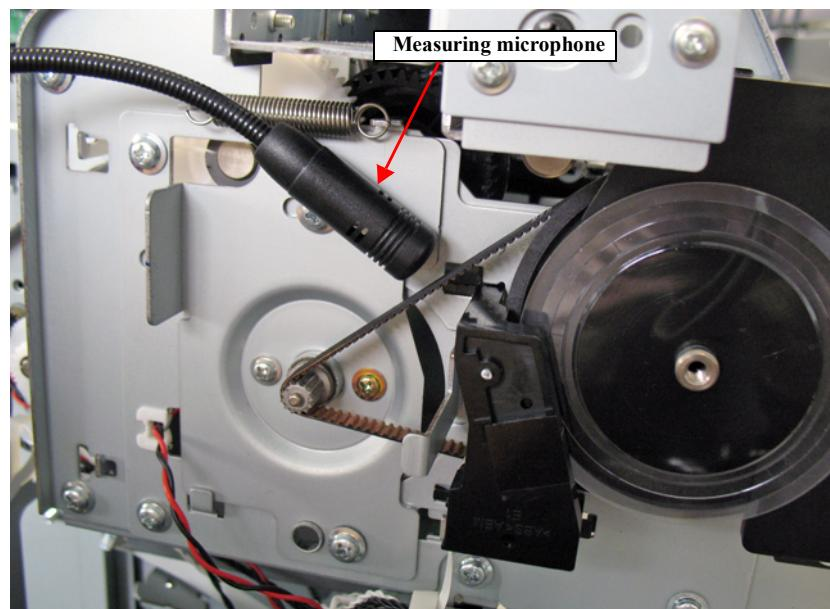

Figure 4-57. PF Belt Tension Check
9. Bring the microphone of the tension meter close to the belt as shown in Figure 4-57.